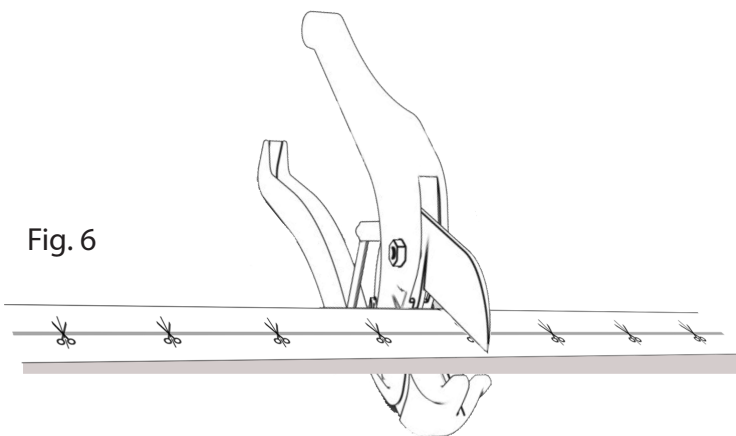

Fig. 6
4. Cut all sections directly aligned on the cut mark indicated on the product using a PVC pipe cutter (Fig. 6) (do not cut between cut mark lines as this will result in damage to the circuiting of the product)